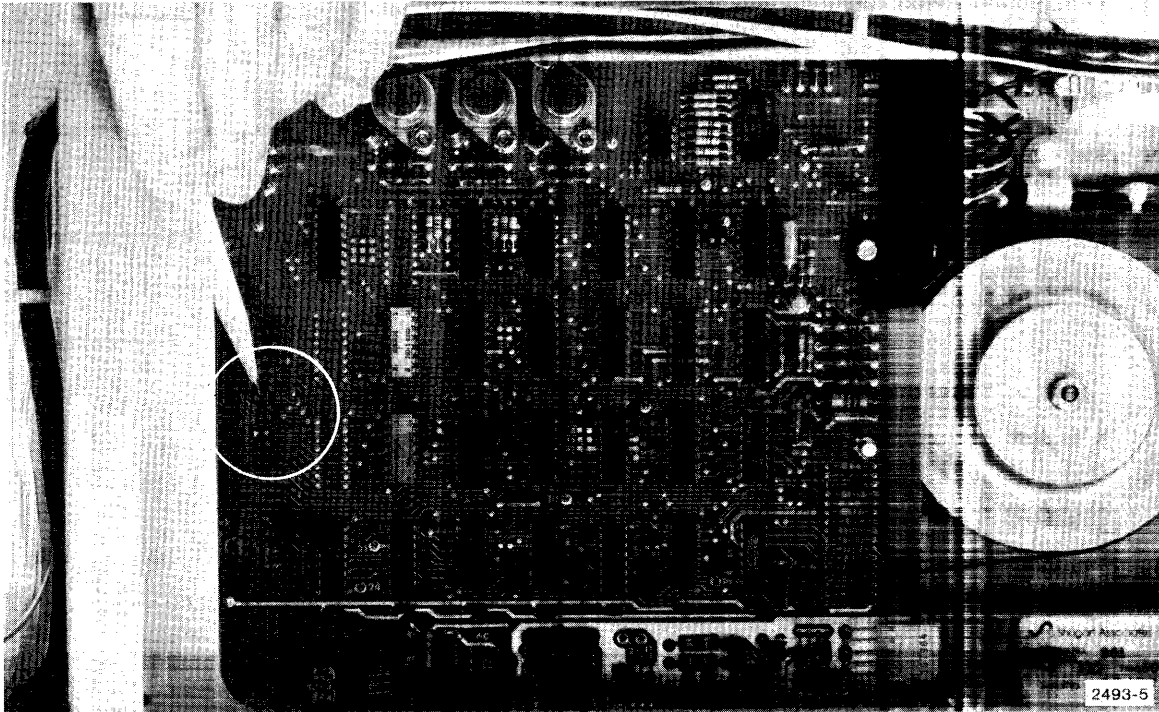
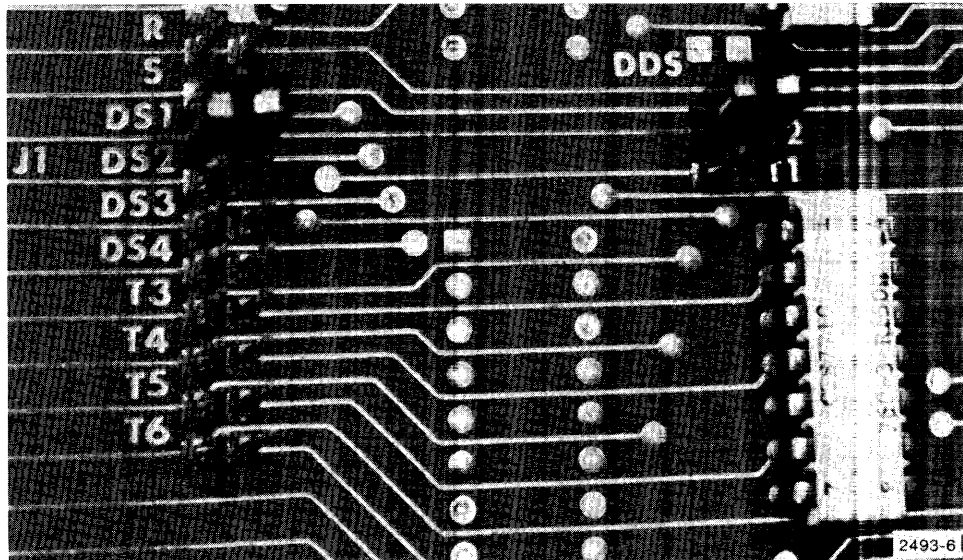

Figure 3-2. Location of drive address straps.
Figure 3-3. Setting for device address 0 (DS1).
4. Locate factory-set address strapping (Figure 3-2) and change strap to the desired address. See Figures 3-3, 3-4, and 3-5.